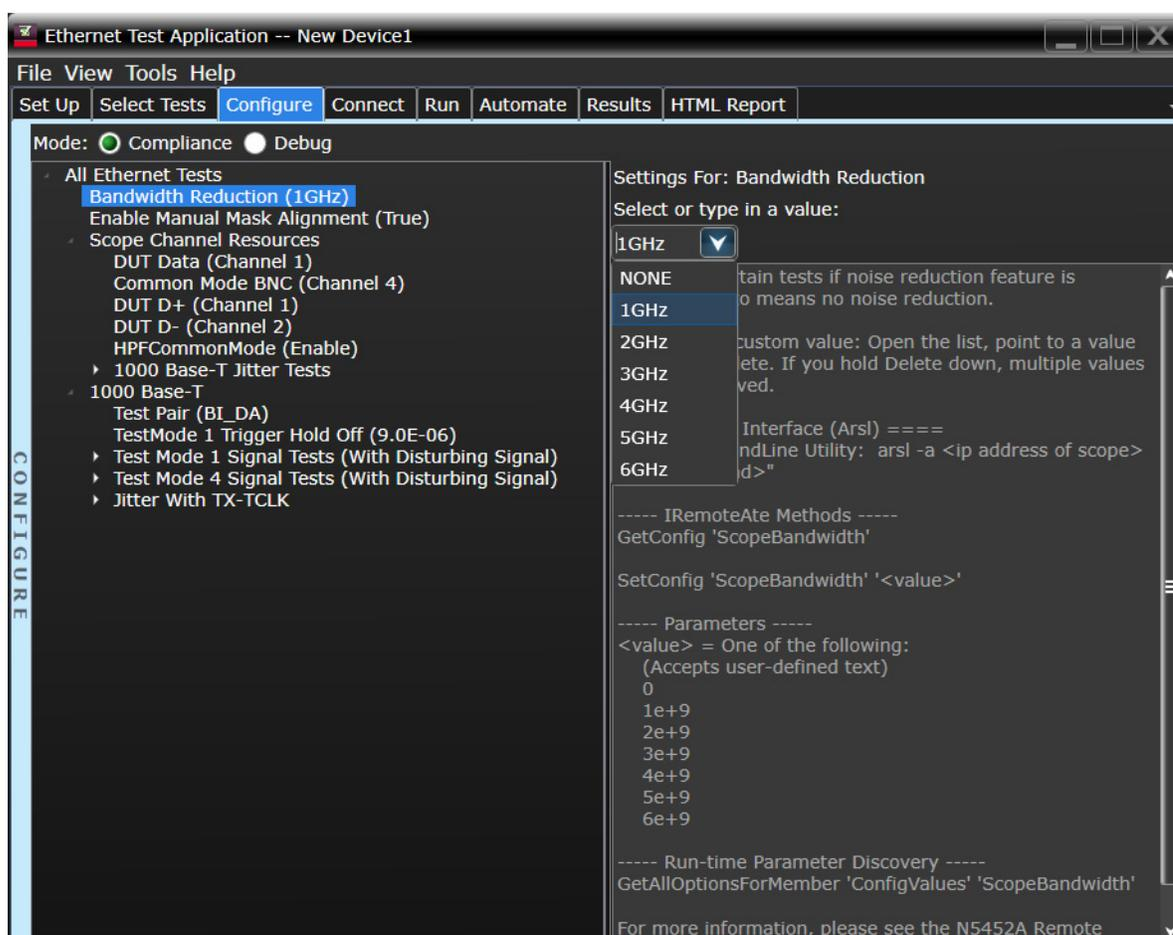

Figure 19 Configuration option for Bandwidth Reduction
- Modify the Bandwidth Limit setting on the Keysight Infiniium Application to match the value configured for the Bandwidth Reduction option in the Ethernet Compliance Test Application (which is set to the default limit of 1 GHz or you may change the value as shown in Figure 19 for performing automated measurements).